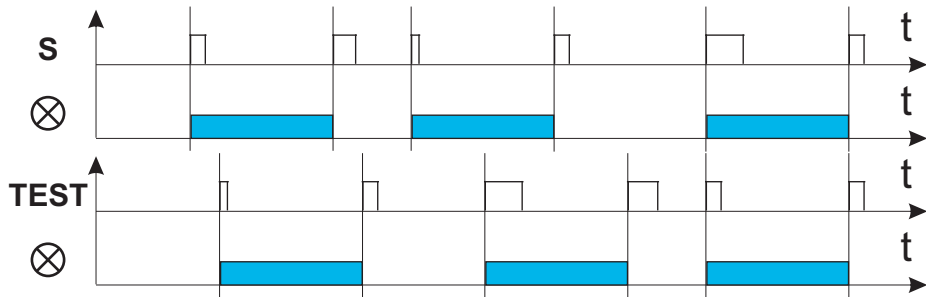

Fig. 1. Schematic diagram of the operating principle of the BISTABLE RELAY BR - 10 .
8. A schematic diagram of the operation of the BISTABLE RELAY BR-10 is shown in Fig. 1.